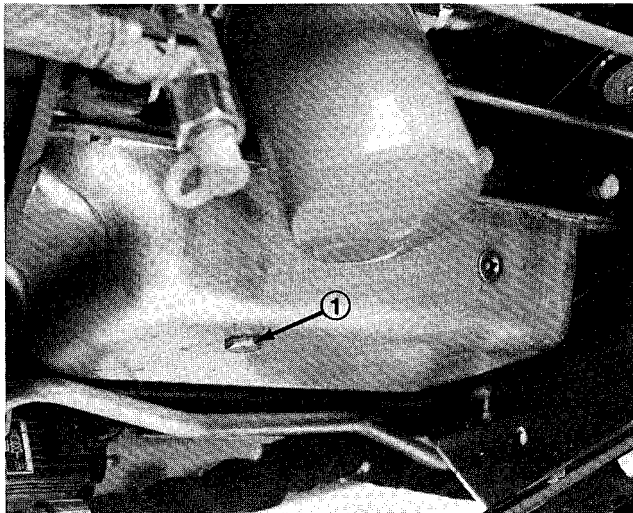

Figure 35
ENGINE OIL AND FILTER (Fig. 35–36)
1. Remove drain plug (Fig. 35) and let oil flow into drain pan. When oil stops, install drain plug and new plug seal.